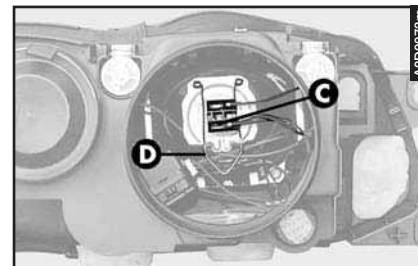

fig. 40
– Disconnect the snap-fitted connector (**C- fig. 40**).